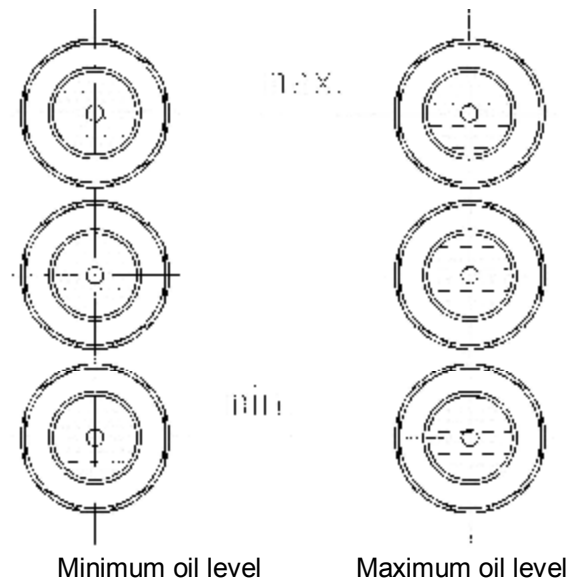

Figure 3: Oil level indication
The equalizing reservoir **20** of the inclined elevator buffers type LPSA is equipped with sight glasses for the oil level check. For this purpose, the opening of the buffer or reservoir is not required! The oil must only be checked, if the piston rod is fully extended (see a/m inspection point). The oil level must be visible in the sight glasses **9** and is checked as shown in figure 3:
- The limit values of the oil level shown in figure 3 should absolutely be observed. The correct oil level is only indicated if the piston rod is fully extended. In the case of too high
Search for the location of oil leak. If leaking oil is visible and the leak cannot be stopped, the buffer should be exchanged immediately. In the case of small leaks the buffer may remain in use. At first check the oil level of the buffer. If the oil level is below the minimum (Fig. 3), refill oil (see chapter 8). Subsequently, the buffer should be checked at shorter intervals.